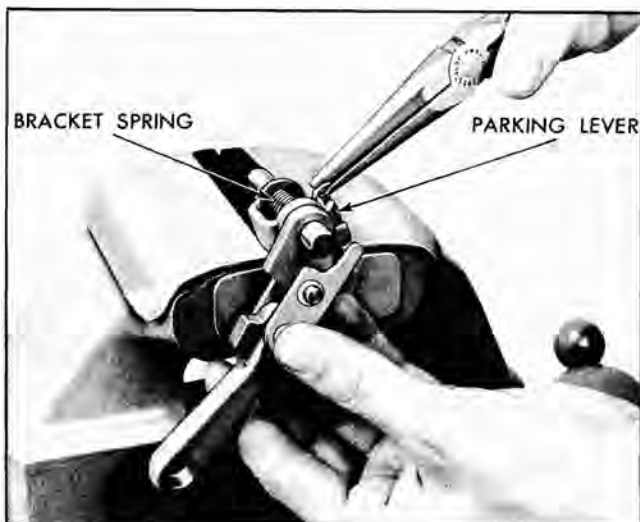

Fig. 99 Removing Parking Bracket Spring from Parking Lever
1. Install assembly in vise using a soft jaw vise on dowel pin (Fig. 99).
1. Clamp dowel pin of parking bracket in soft jawed vise (Fig. 99).
3. Place bracket shaft approximately half way through bracket and spring and then slide pawl and lever assembly onto shaft so parking lever and links are as shown in Fig. 99.